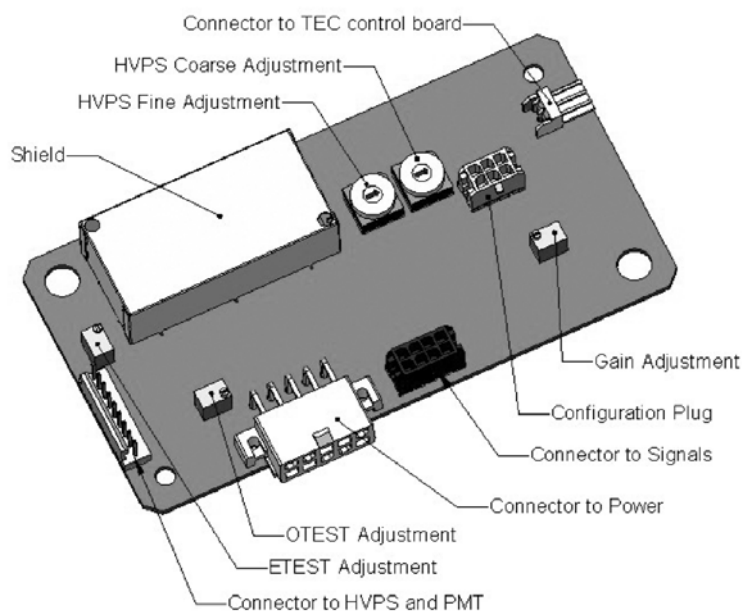

Figure 10-5: Pre-Amplifier Board Layout
7. Locate the Following Components On the Preamp board (see Figure 10-5 of this manual):
8. Set the HVPS coarse adjustment to its minimum setting (0).
9. Set the HVPS fine adjustment switch to its maximum setting (F).